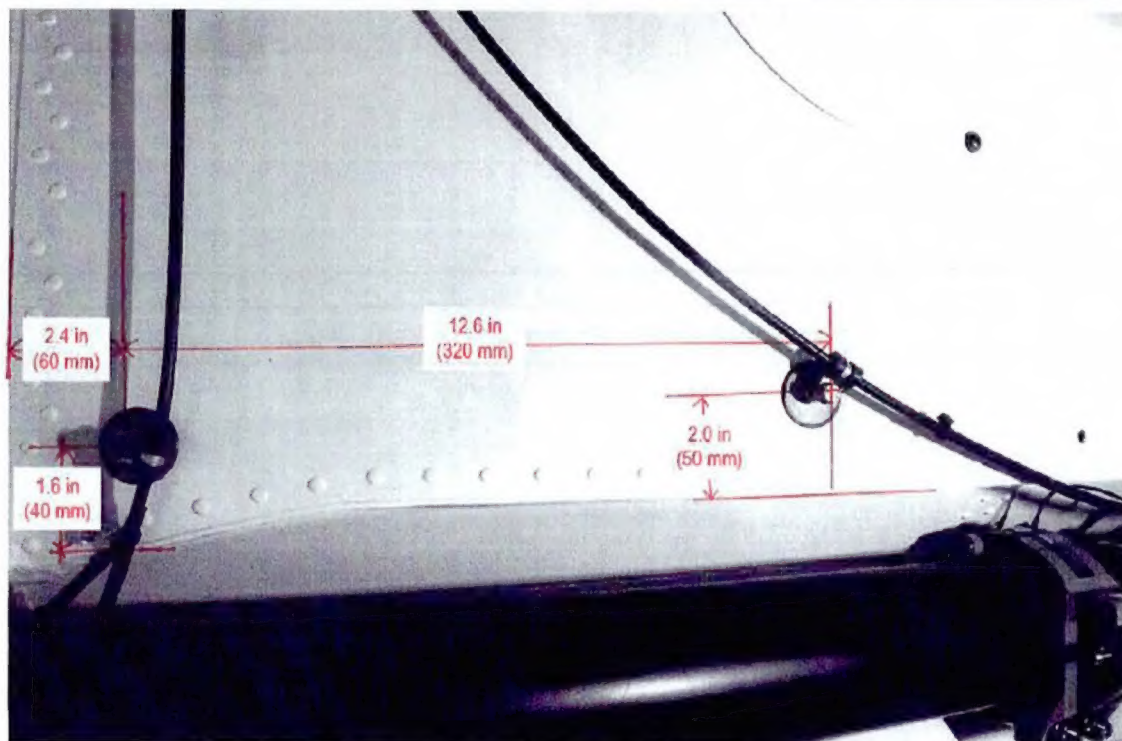
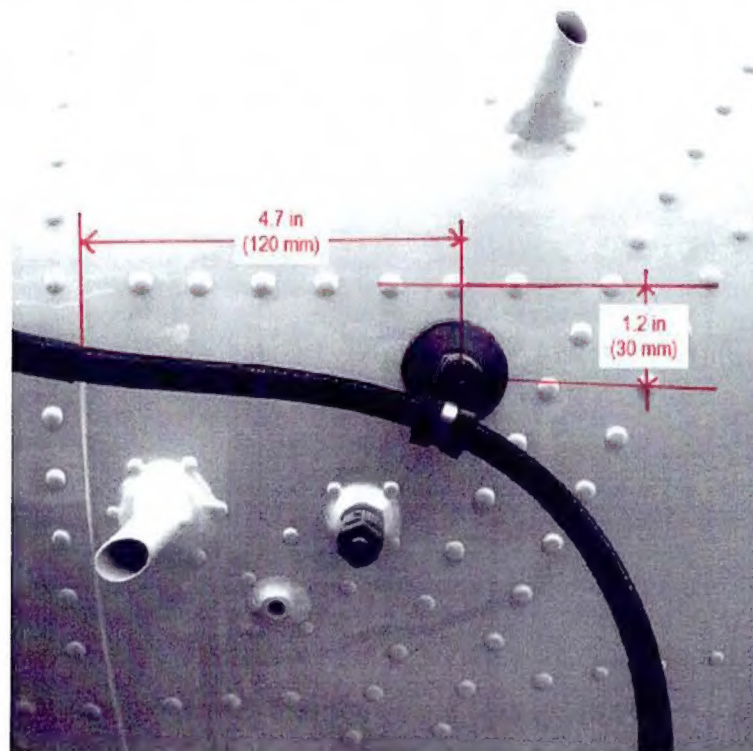

FIGURE 6: CLICK BOND LOCATION (APPROX. DIM.)
FIGURE 11: CLICK BOND LOCATION (APPROX. DIM.)
2. Reference Figure 6 - Figure 11 of this DSI for acceptable Click Bond (F/N 37) locations. A tolerance of 2.0" (50 mm) is acceptable on all dimensions. Additional Click Bonds may be required to remove any slack that may cause contact with the aircraft or other surrounding features.